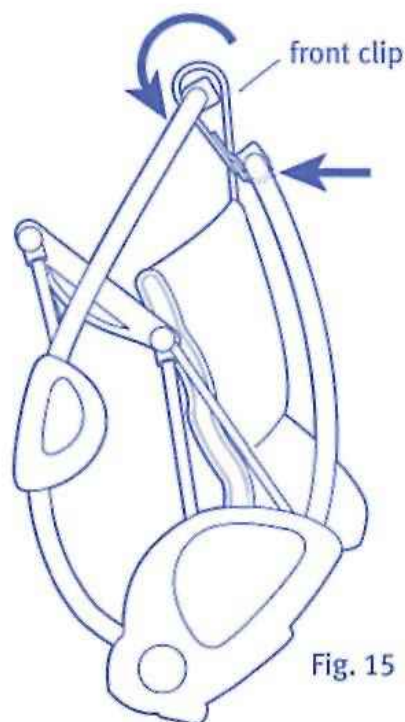

Fig. 15
5. Strap will wrap around top leg and snap onto lower leg for more secure fold (see Fig.15).